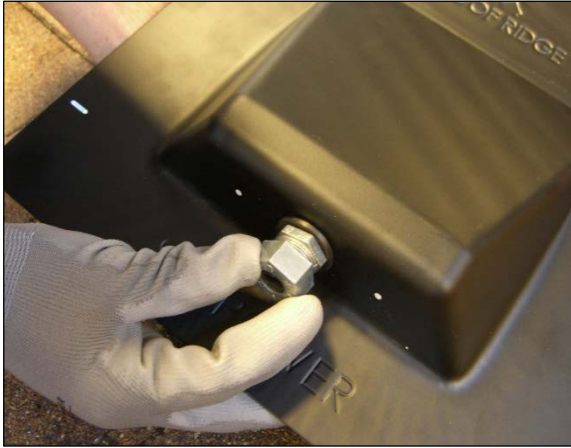
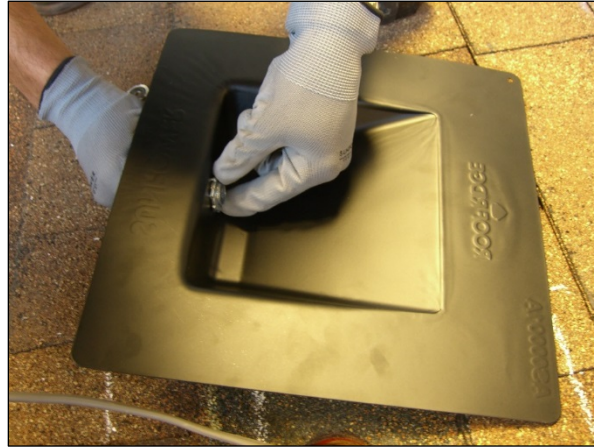

Fig. J7
Fig. J8
10. Install and torque the gland and back nut as per the manufacturer guidance (Fig. J7 and Fig. J8).